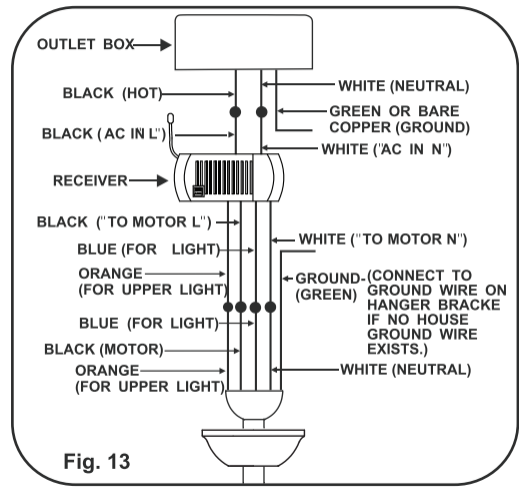

Fig. 13
NOTE: If your ceiling fan features an UP Light: Connect the ORANGE wire from the fan to the ORANGE wire marked "For Up Light" from the Receiver. Otherwise disregard this step and proceed to secure all wire connections with the plastic wire nuts provided.(Fig.13)
Step 3. Receiver to House Supply Wires Electrical connections: Connect the **WHITE** wire(Neutral) from the outlet box to the **WHITE** wire marked "AC in N" from the receiver. Connect the **BLACK** wire(Hot) from the outlet box to the **BLACK** wire marked "AC in L" from the receiver. Secure all wire connections with the plastic wire nuts provided.(Fig.13)
Step 4.If your outlet box has a **GROUND** wire (Green or Bare Copper) connect this wire to the Hanger Ball and Hanger Bracket Ground wires. If your outlet box does not have a Ground Wire, then connect the Hanger Ball and Hanger Bracket Ground Wire together. Secure wire connection with the plastic wire nut provided.(Fig. 13)